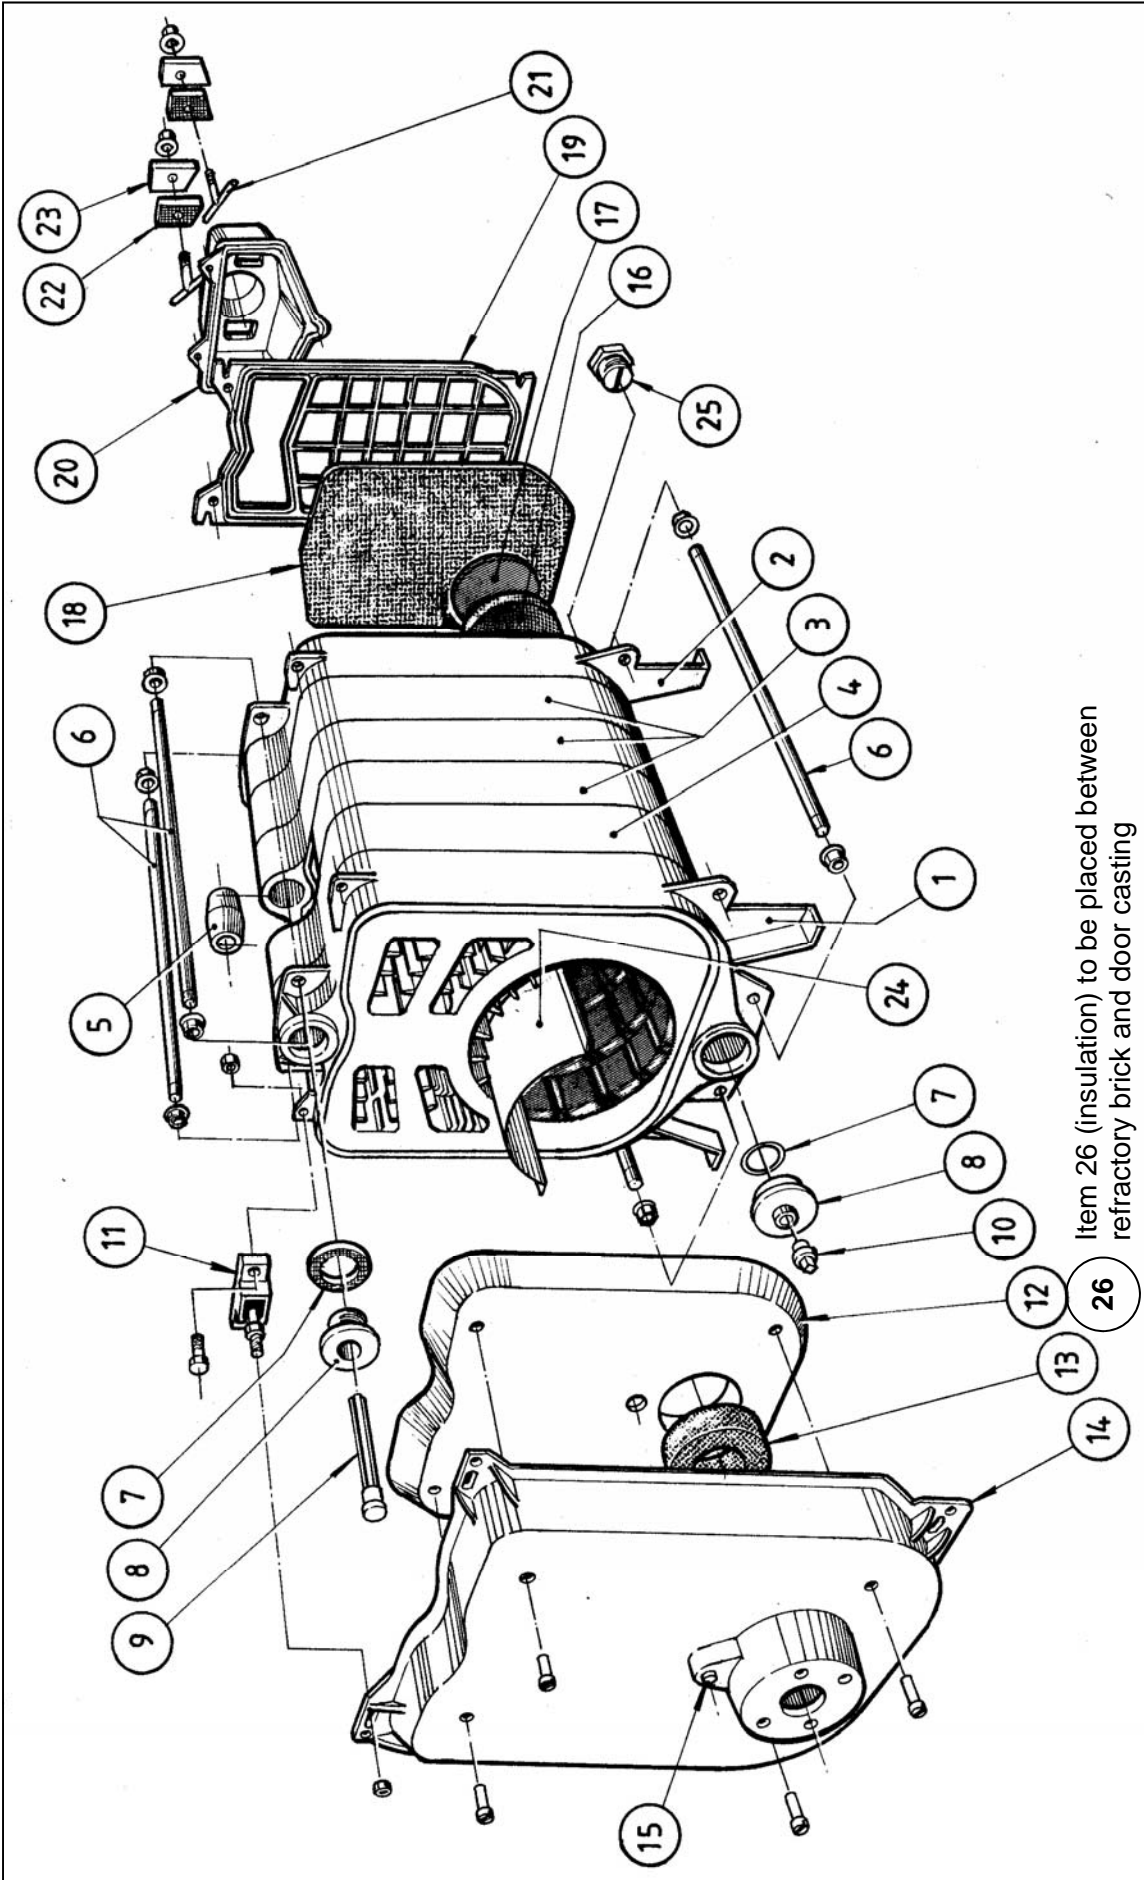

Fig. 4. Exploded View of Boiler
10.1 Boiler Spares (refer to Fig. 4)